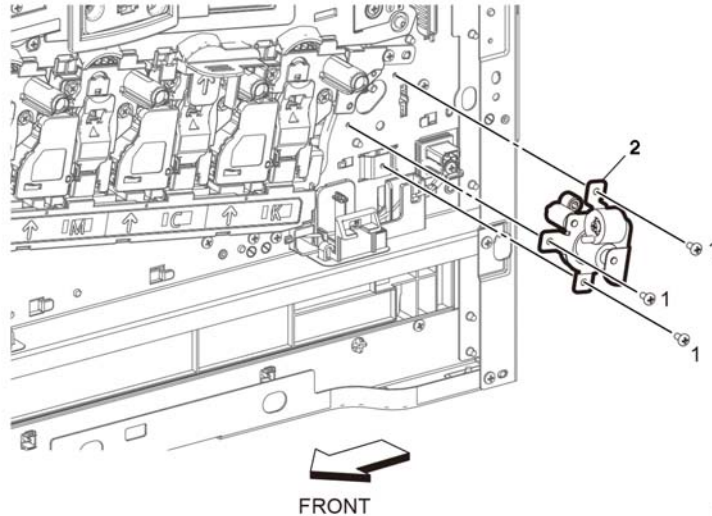

Figure 1 Waste drive assembly removal
6. Remove three screws (1), then remove the waste drive assembly (2), Figure 1 >